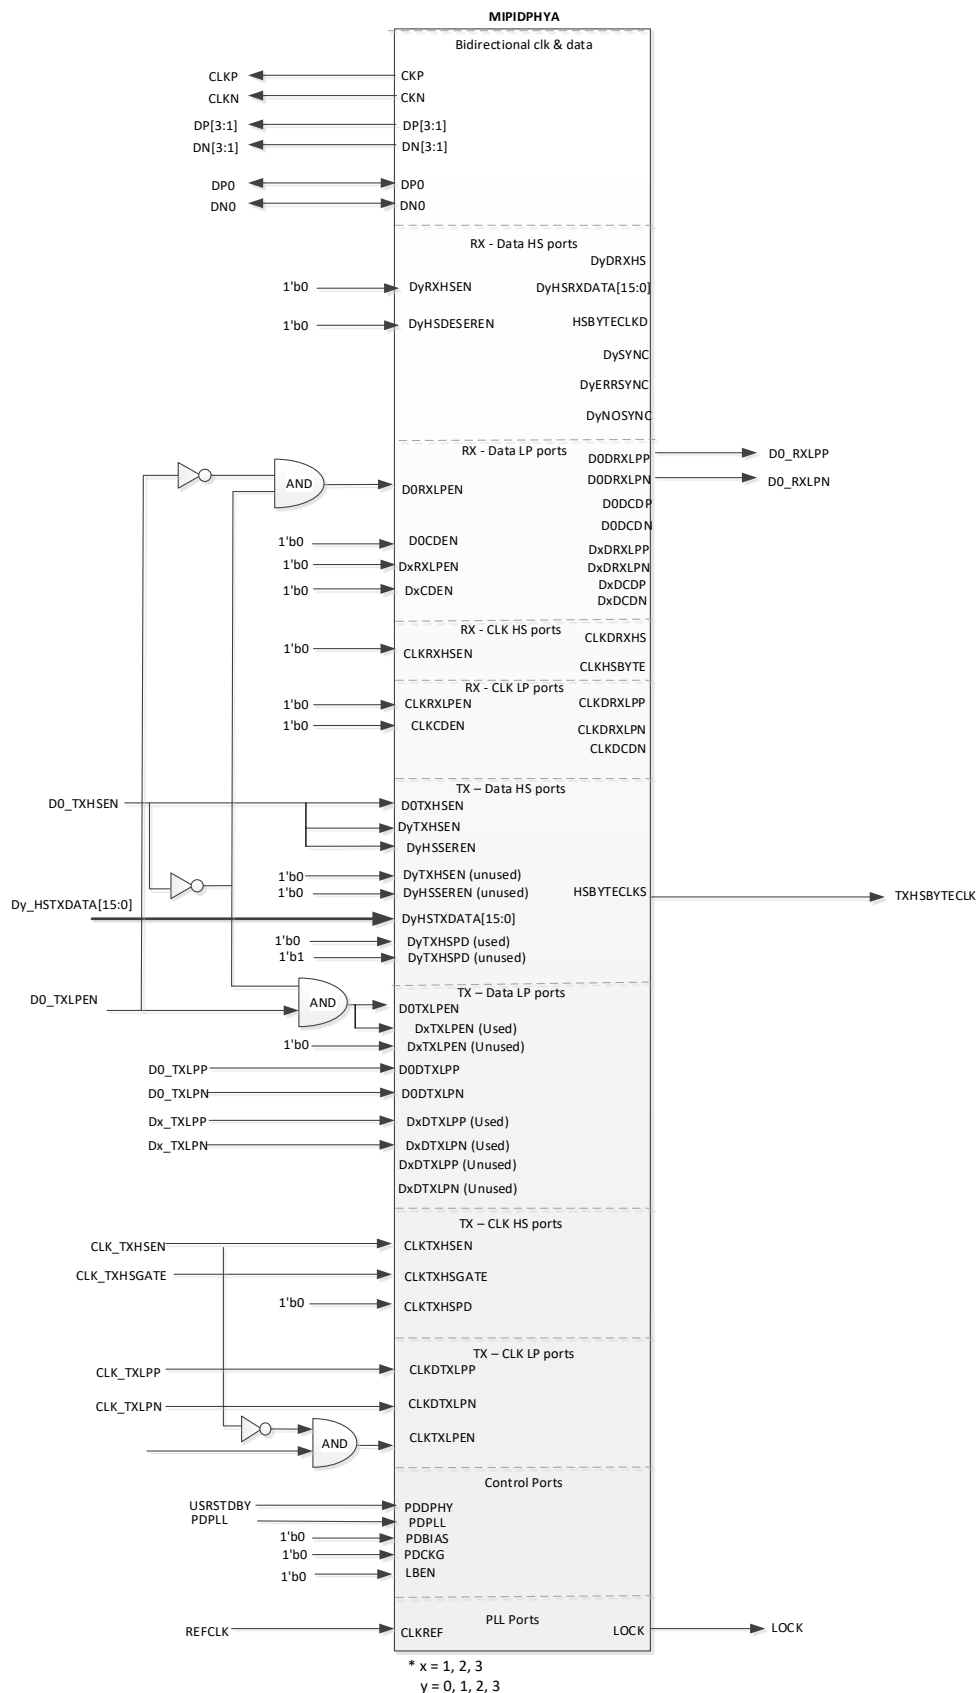

Figure 5.28. MIPI DSI Transmit with Hard D-PHY Module
- Figure 5.28 shows the signals connected to the fabric and the automatic settings when the hardened D-PHY is configured for DSI transmit mode. The Clarity Catalog user interface settings automatically powers down unused lanes of the hardened D-PHY.
- Only D0 and CLK bits are used in LP mode. Only D0 is used as a bidirectional pin. D1, D2, and D3 pins (when those lanes are used) should be toggled between LP/HS mode based on D0 state as shown in Figure 5.28.